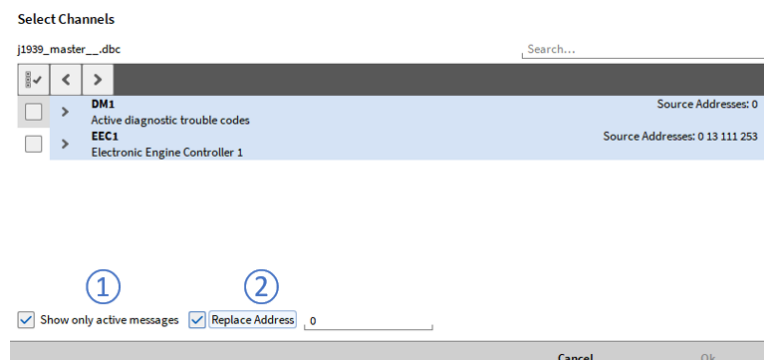

Fig. 7.211: Channel picker for SAE J1939 messages and signals
If a dbc- or arxml file is loaded that contains J1939 messages, the source Address will be displayed when Show only active messages is activated (see ① in Fig. 7.211). By Selecting Replace Address it is possible to replace the current source address of the dedicated message by a user defined one (see ② in Fig. 7.211).